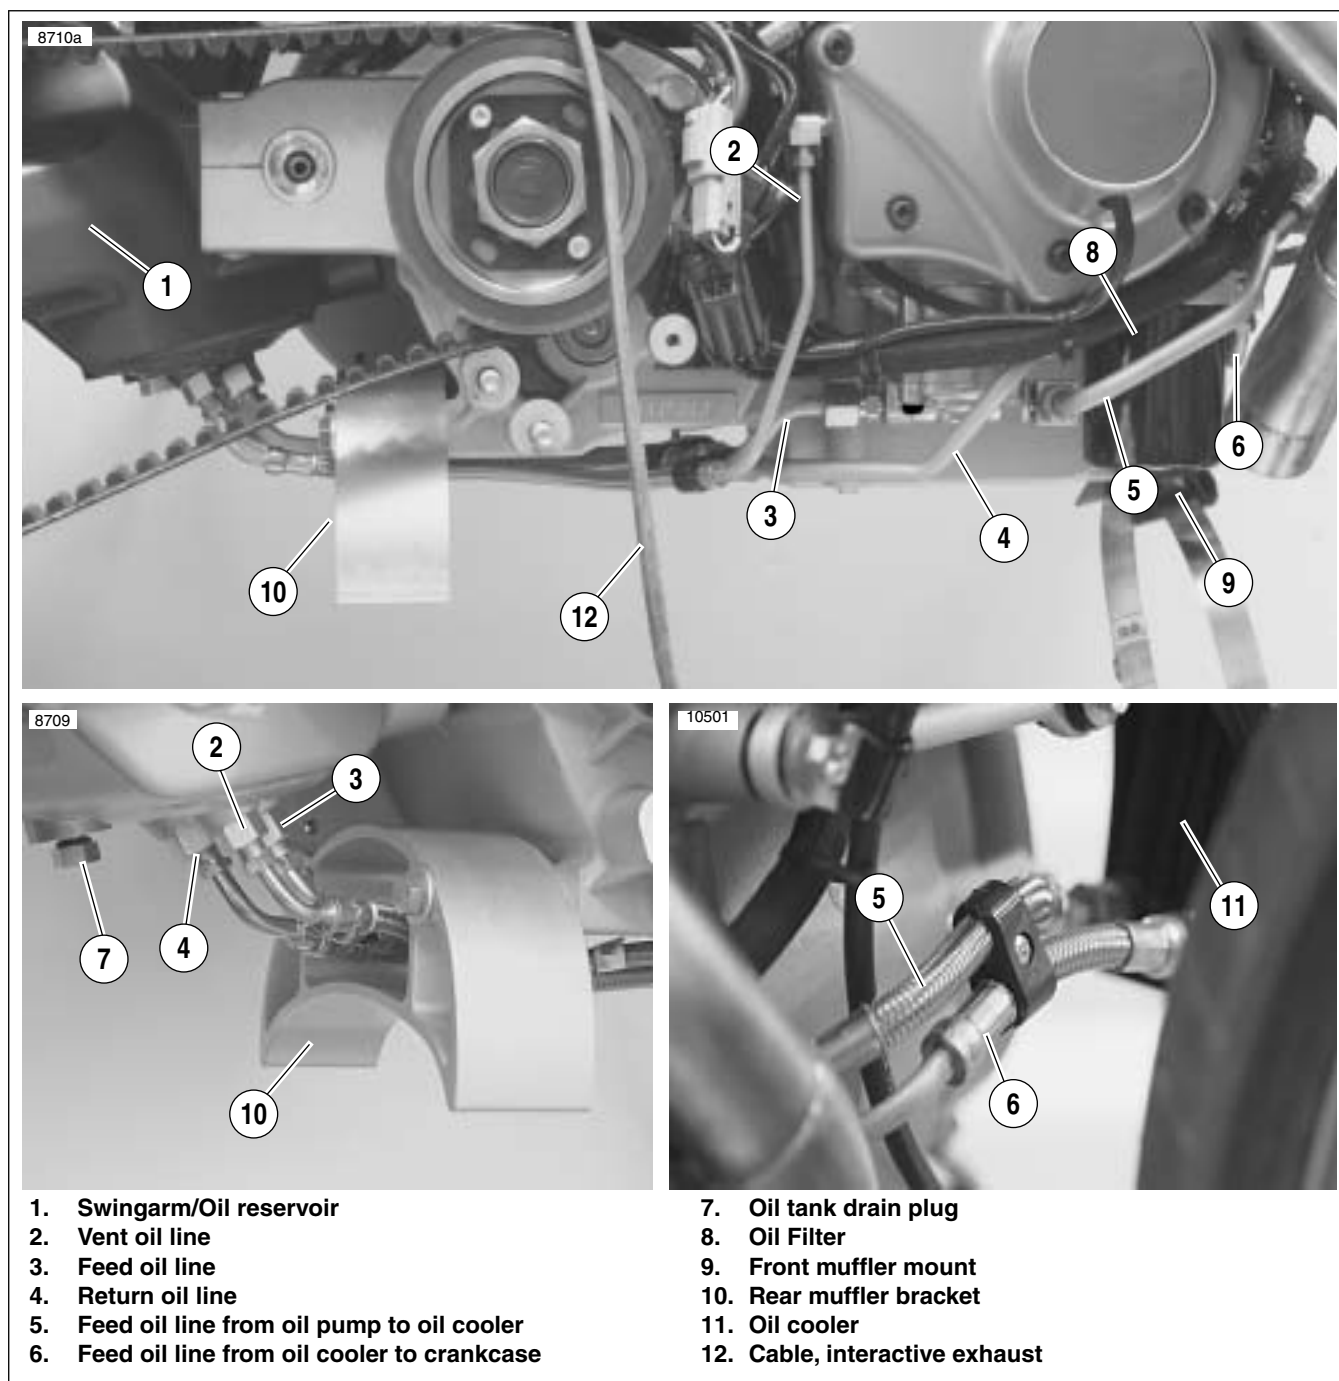

Figure 3-19. Oil Lines and Connections
16. See Figure 3-19. Remove oil filter.